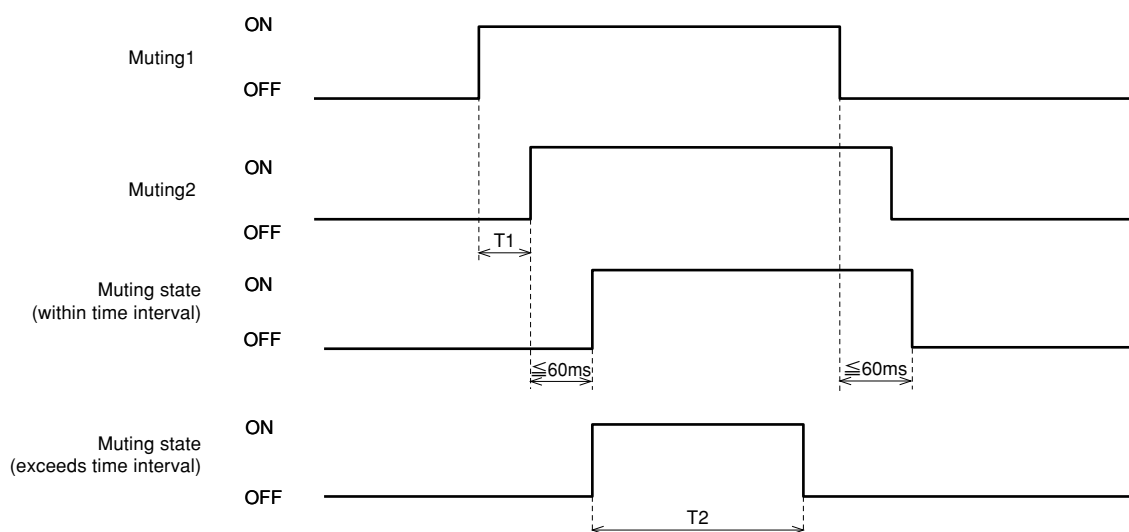

Figure 3-12. Muting sequence
- The two independent hard wired muting input signal are switched in the predefined sequence. The sequence includes the switching order of the muting and the switching time interval T1 as shown in figure 3-12.